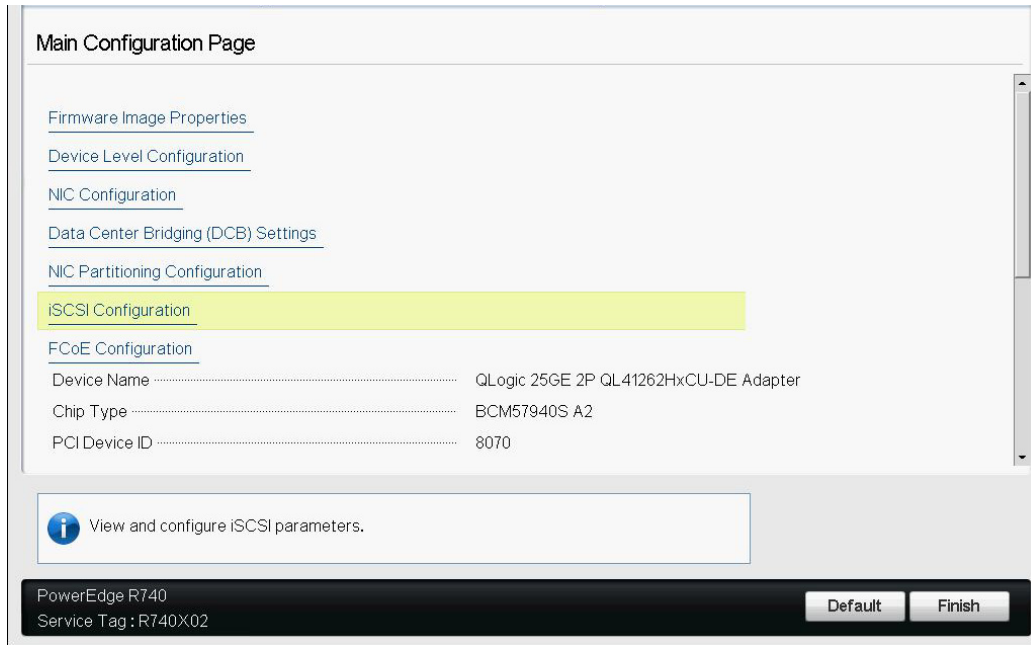

Figure 9-6. System Setup: iSCSI Configuration
1. In the Device HII **Main Configuration Page**, select **iSCSI Configuration** (Figure 9-6), and then press ENTER.